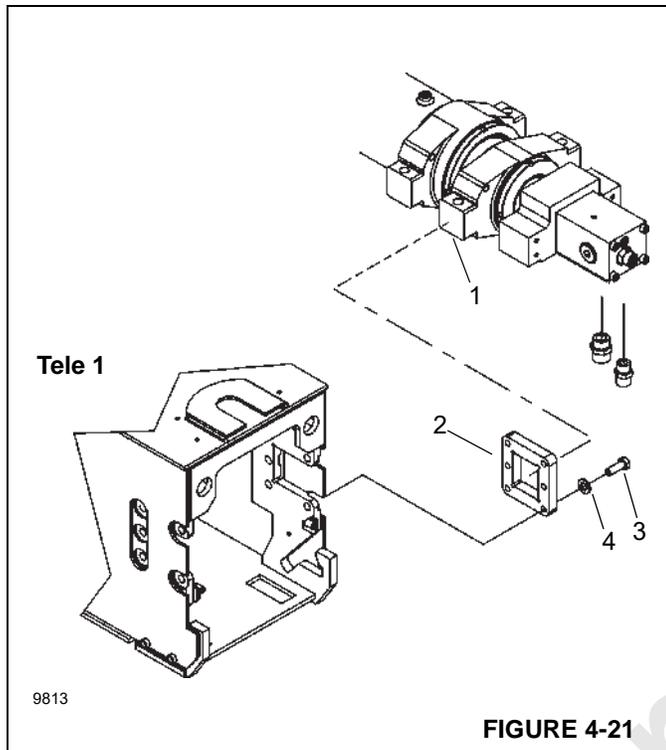

FIGURE 4-21
- Loosely install trunnion plates (2, Figure 4-21) on telescope cylinder flanges (1).
- Install cap screws (3, Figure 4-21), washers (4), and trunnion plates (2) to secure the telescope cylinder to the Tele 1 section boom.